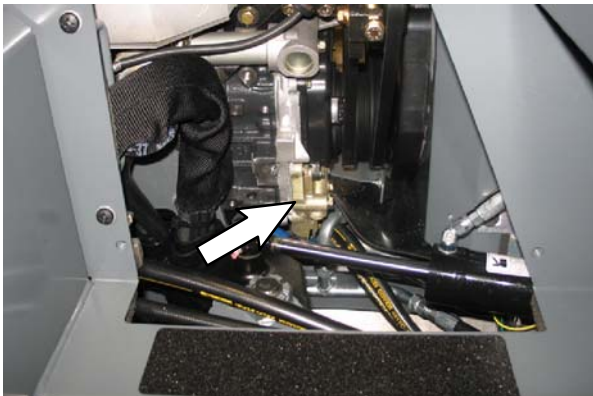
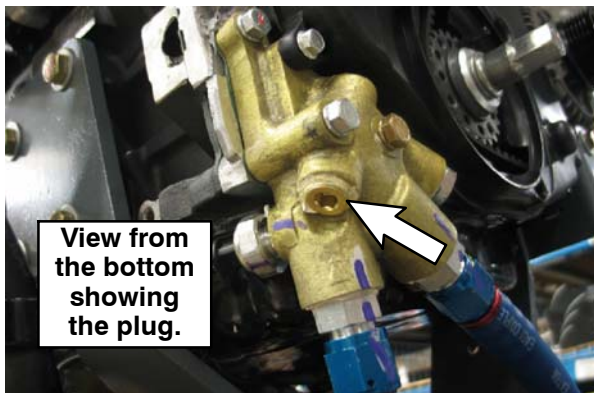

FIG. 6
FIG. 7
2. **M20/M30/T20 only:** Remove the access panel on the lower left side of the operator station. Inspect the oil adaptor plate, hoses, plug, and fittings for leaks. (Fig. 6 / Fig. 7)
3. Tighten any loose hoses / fittings. (Fig. 6 / Fig. 7 / Fig. 8)